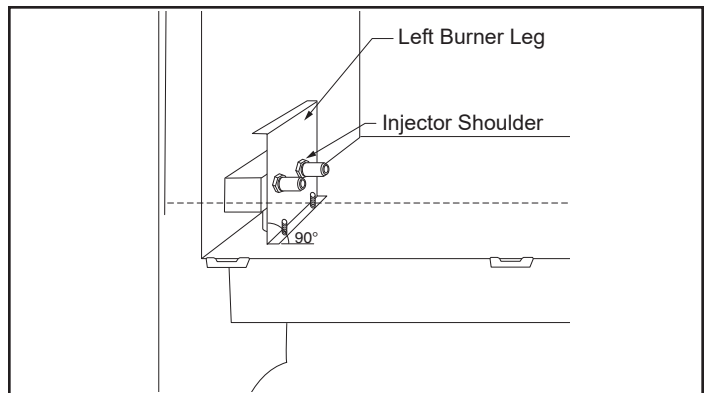

Figure 40 - Be sure to maintain 90° angle at left burner leg.
9. Refasten the two nuts and assemble the burner into the unit by sliding the burner in at an angle with the left side lower than the right side. Slide the left side onto the injectors. Lower the right hand side down into place. Make sure the burner is as far left as possible and the injector shoulders are inside the burner. **NOTE:** It is very critical to keep the left burner leg, which holds the injectors, at a 90° angle to the base. (Figure 40) This keeps the orifices aligned with tubes on the inside of the burner. Failure to do so could affect the flame appearance and performance of the unit.